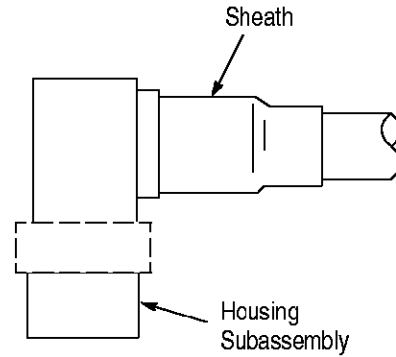

Figure 5
3.4. Shrinking Sheath to Cable (Figure 5)
1. Position the sheath over outer sleeve as shown in Figure 5.